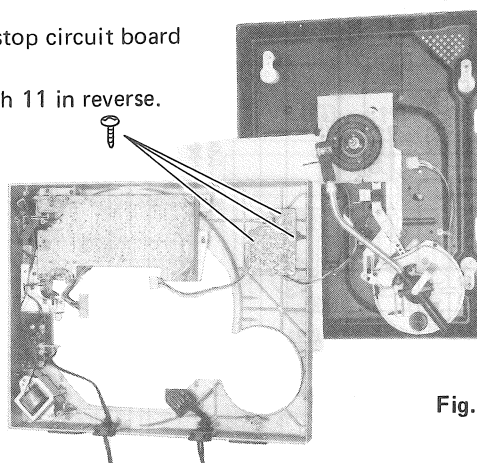

Fig. 3
12. Remove the 3 screws from the start/stop circuit board (See Fig. 3)